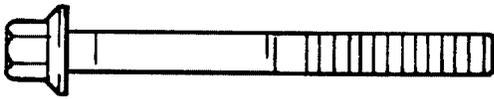

Figure 11-10. Connecting Rod Bolts.
5. Install the inner rod cap to the connecting rod using the two hex. flange screws. Three different types of connecting rod bolts have been used and each has a different torque value. If 8 mm straight shank type bolts are used, torque in increments to **22.7 N·m (200 in. lb.)**. If 8 mm step-down bolts are used, torque in increments to **14.7 N·m (130 in. lb.)**. If 6 mm straight shank bolts are used, torque in increments to **11.3 N·m (100 in. lb.)**. Illustrated instructions are provided in the service rod package. See Figures 11-10 and 11-11.